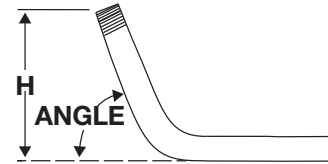

Figure 20
1. In the appropriate Special Bending Table, use the desired stub height (H) and angle to find Y. (Fig.20)